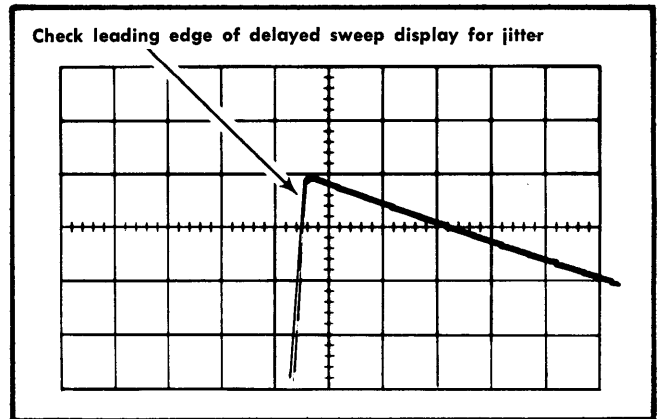

Fig. 5-40. Typical CRT display when checking delay-time jitter.
c. CHECK—Jitter on the leading edge of the pulse should not exceed 0.5 division (one part in 20,000; see Fig. 5-40). Disregard slow drift.
e. CHECK— Jitter on the leading edge of the pulse should not exceed 0.5 division (see Fig. 5-40). Disregard slow drift.